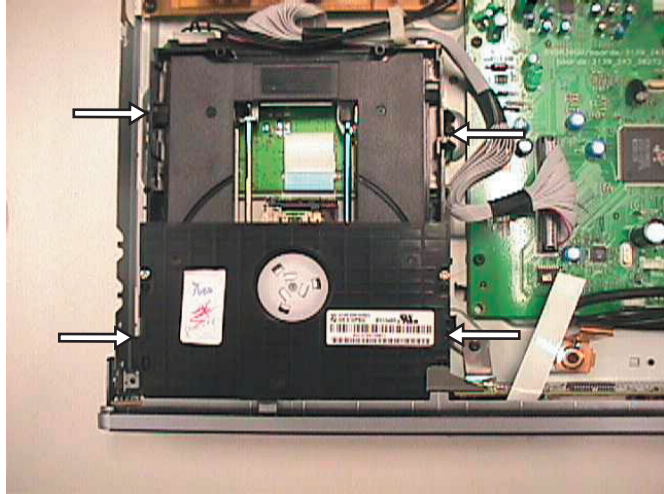

Figure 6. Remove the screws to dismantle the basic engine
- 1) Remove 4 mounting screws as shown in figure 6 to dismantle the Basic Engine 1001.